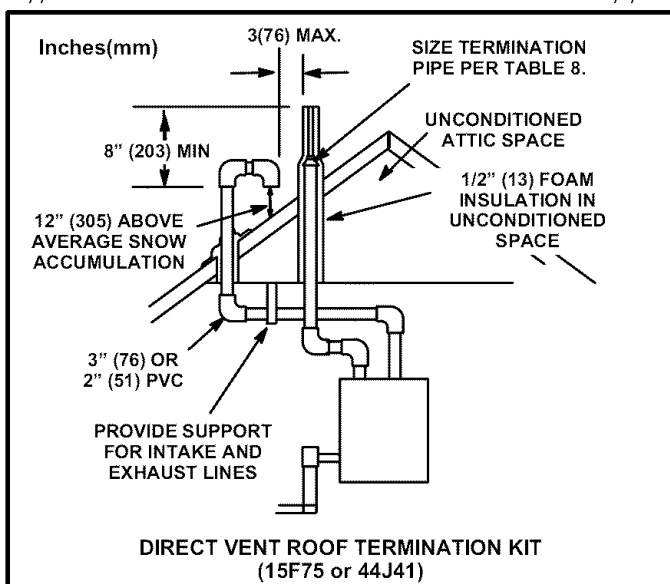

FIGURE 34
NOTE - In Direct Vent installations, combustion air is taken from outdoors and flue gases are discharged to outdoors. Intake and exhaust pipes may be routed either horizontally through an outside wall or vertically through the roof. In attic or closet installations, vertical termination through the roof is preferred. Figures 34 through 42 show typical terminations.
- 4 - On roof terminations, the intake piping should terminate straight down using two 90° elbows (See figure 34).